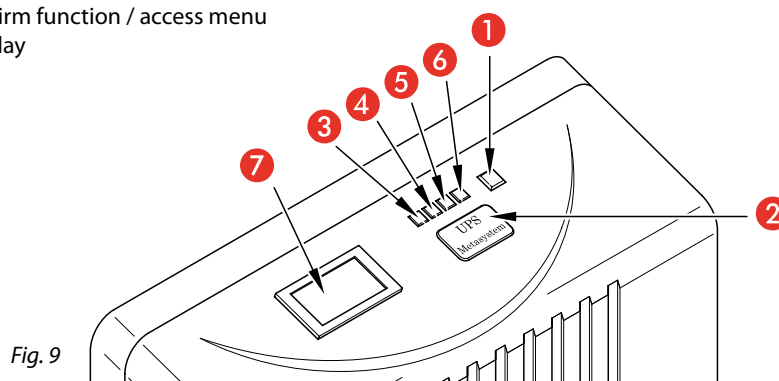

Fig. 9
**Switching ON:** press ON/OFF button [1] (fig.9). The display shows the operating status (fig.14)
**Switching OFF:** press ON/OFF button for a few seconds [1] (fig.9).